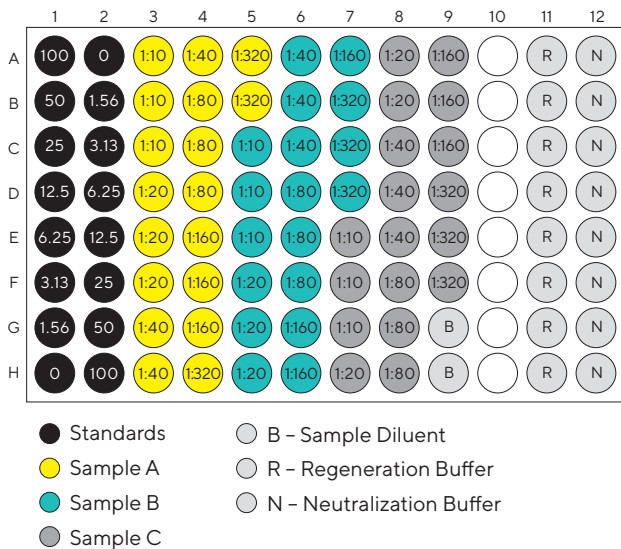

Figure 4: Sample plate layout for dilution linearity testing.
- 10.2 Prepare a sample plate with standards and samples diluted at different dilution factors in duplicate as shown in Figure 4.